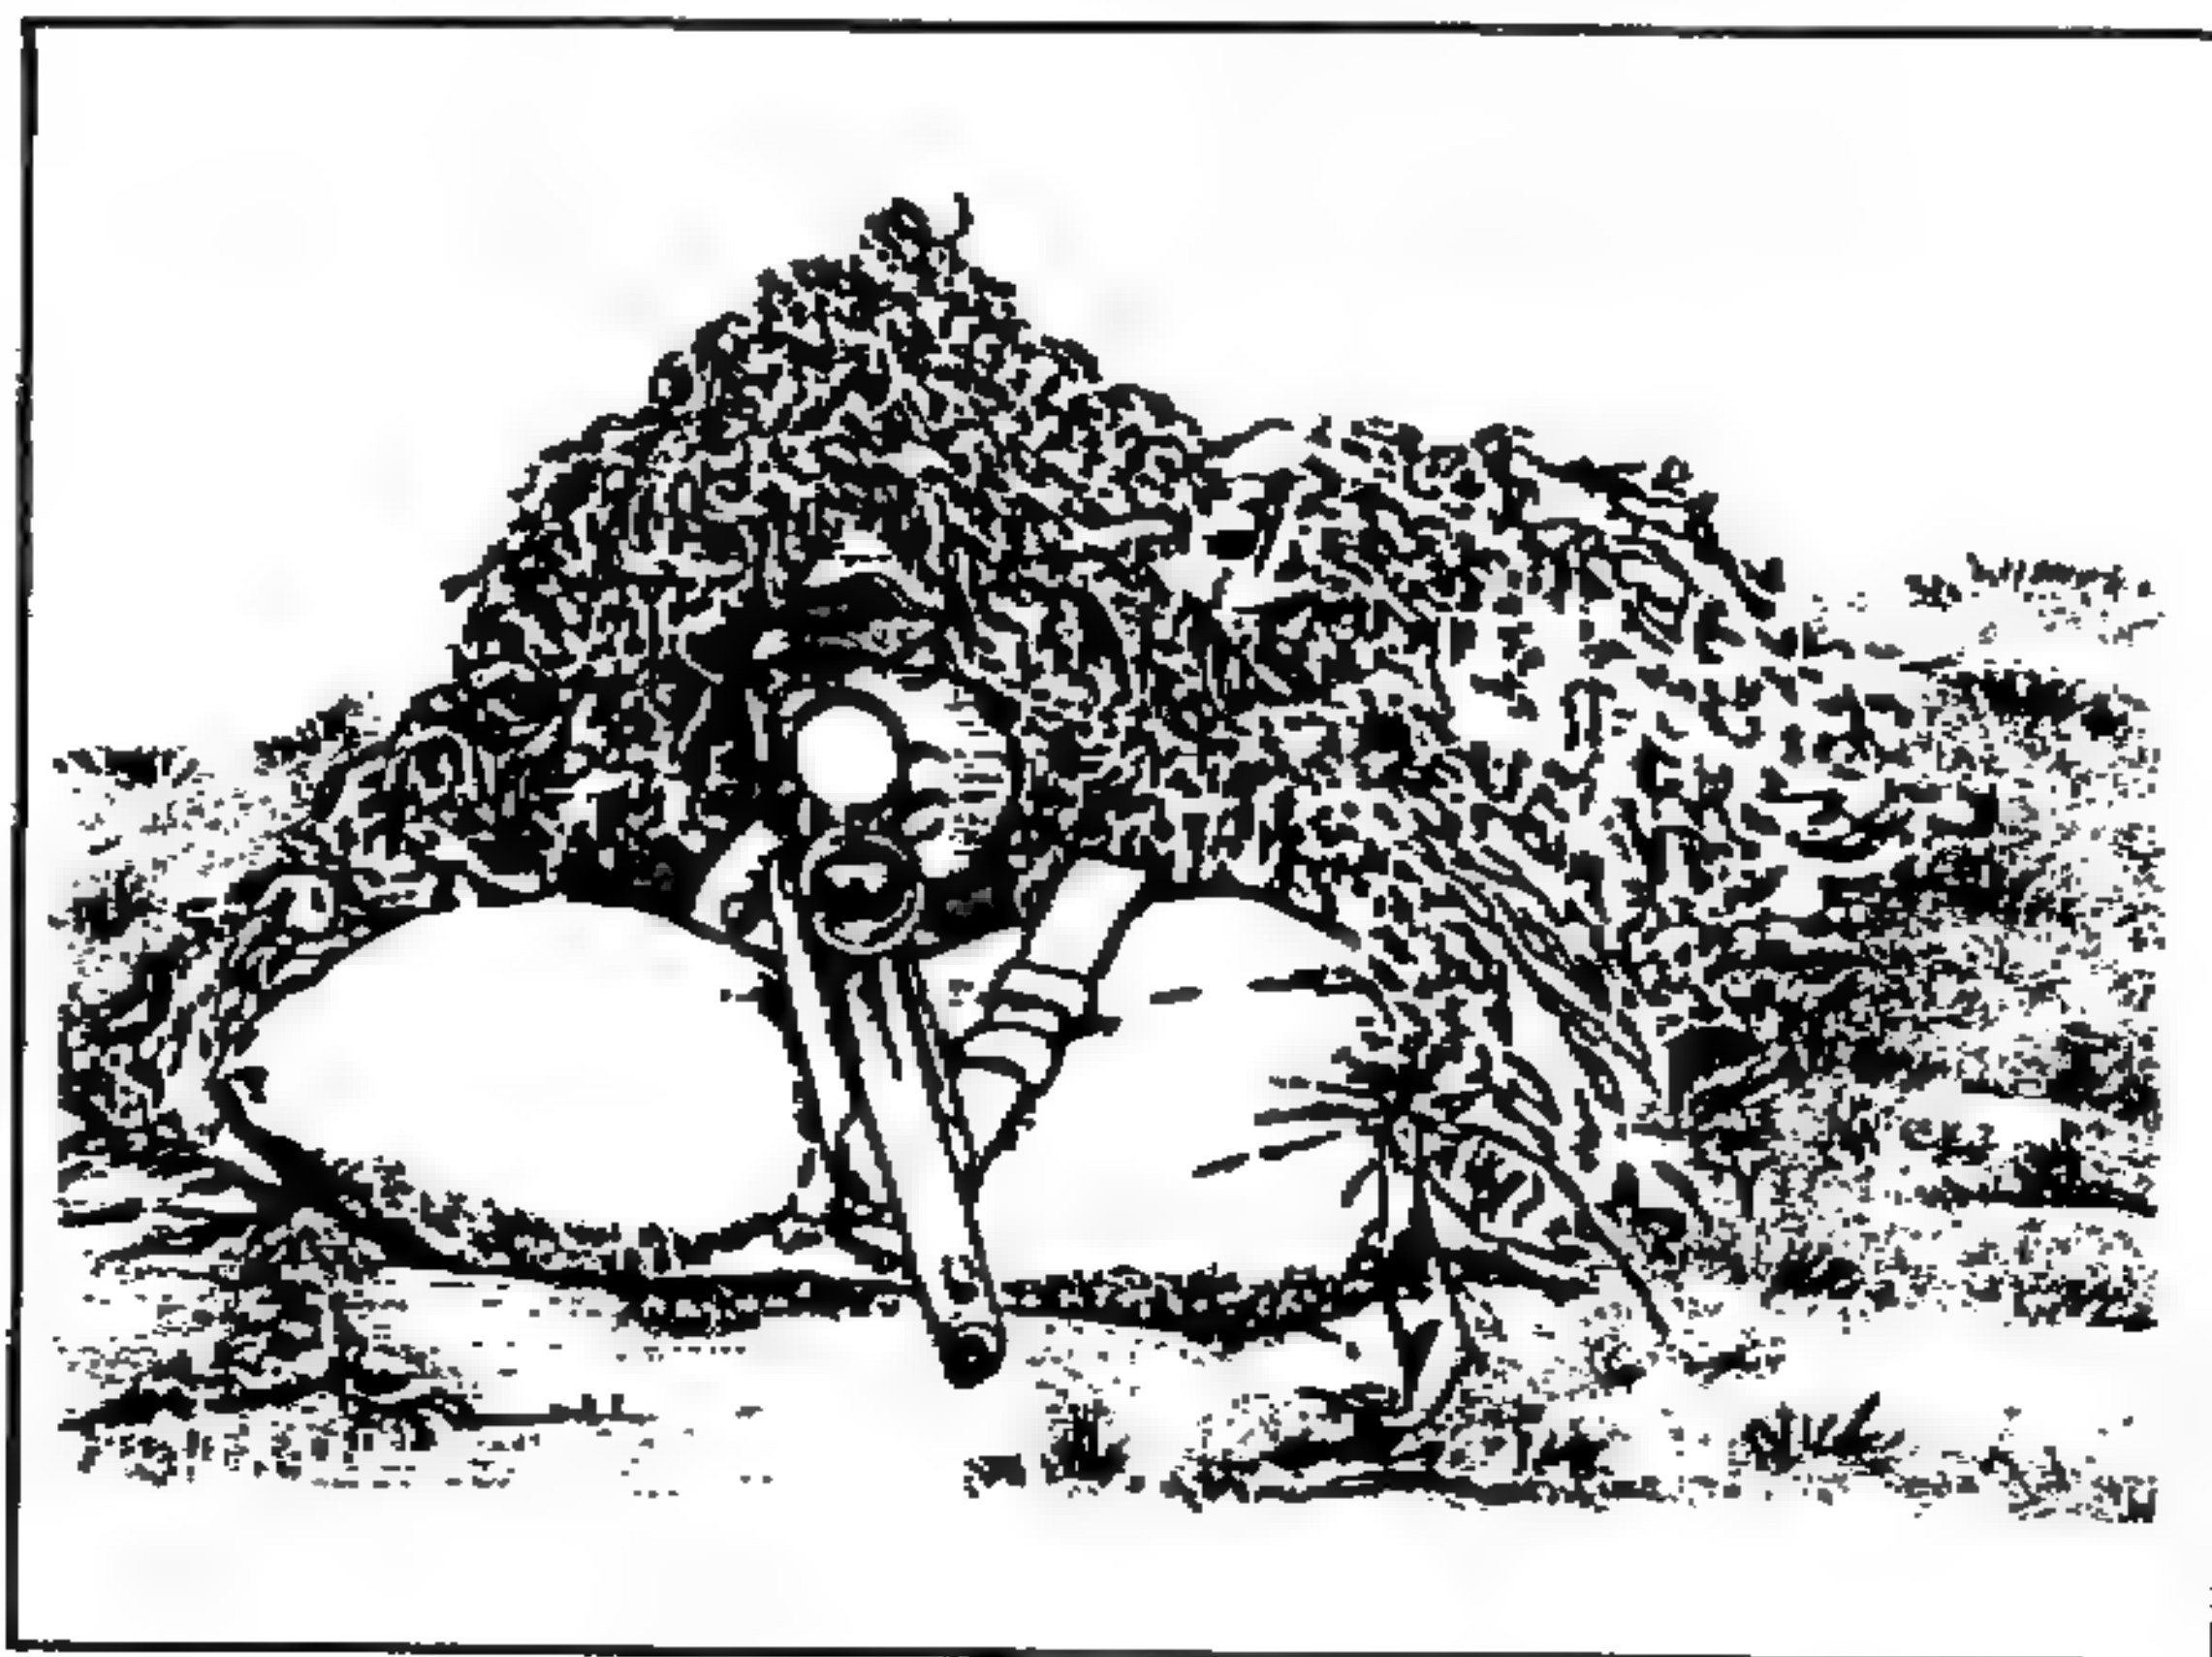

Figure 3-11. Sandbag.
(3) *Sandbag.* The sniper can fill an empty sandbag (Figure 3-11) on site.